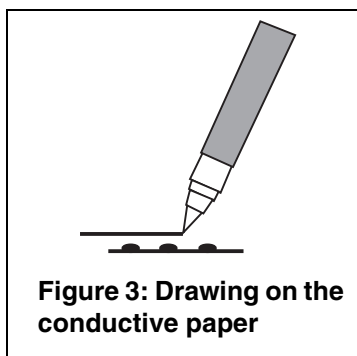

Figure 3: Drawing on the conductive paper
- c) Remove the cap. On a piece of scrap paper, press lightly down on the spring-loaded tip while squeezing the pen barrel firmly. This starts the ink flowing. Slowly drawing the pen across the paper produces a solid line. Drawing speed and exerted pressure determines the path width (See Figure 3).